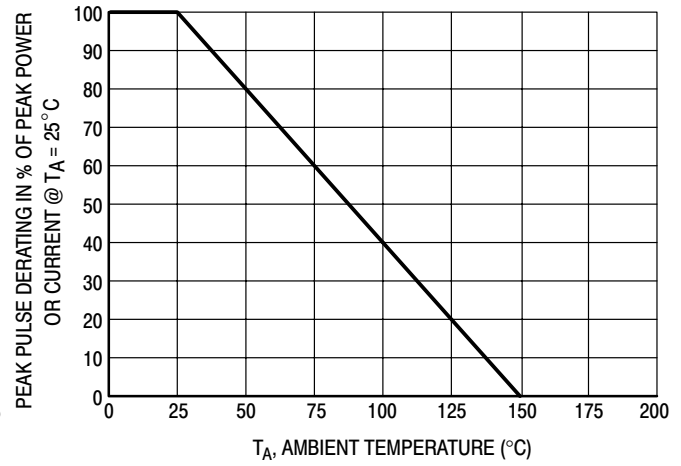
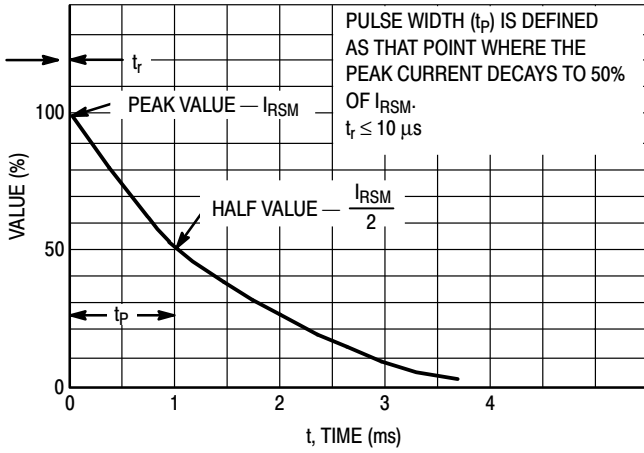

Figure 4. Pulse Derating Curve
Figure 5. 10 × 1000 μs Pulse Waveform
7. Surge current waveform per Figure 5 and derate per Figure 4